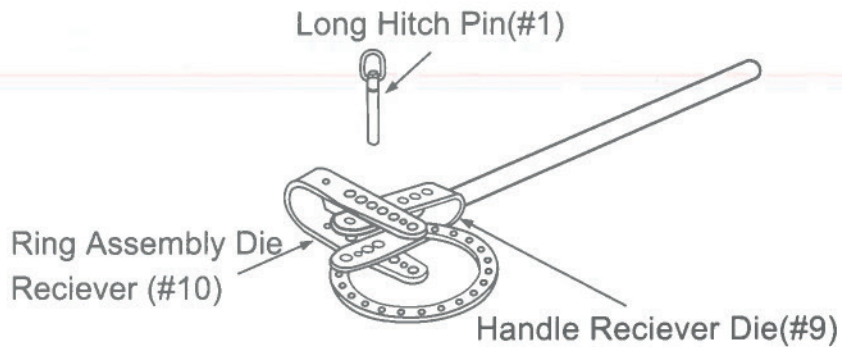

Figure2 – Assembling Handle
- Step 5: Place the HANDLE DIE RECEIVER (#9) between the ASSEMBLY SPACER DIE RECEIVER and secure in place using the LONG HITCH PIN (#1) as shown in Figure 2